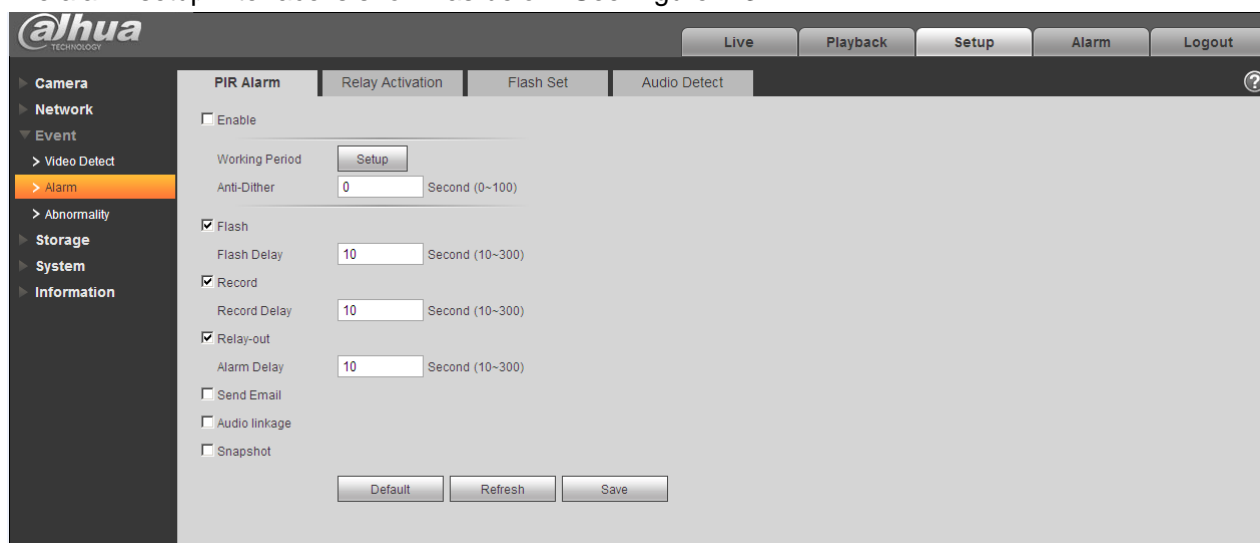

Figure 2-3 Alarm
The alarm setup interface is shown as below. See Figure 2-3.
- 3) Open the Web, go to the Figure 2-3. Please set the alarm input and output port. Web alarm input corresponds to device I/O. Based on alarm input device signal of high or low level, set NO/NC input.